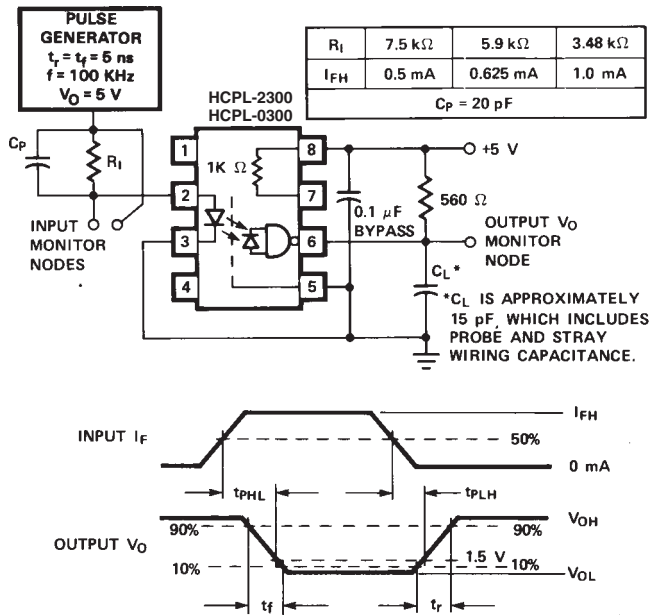

Figure 8. Test Circuit for  $t_{pHL}$ ,  $t_{pLH}$ ,  $t_r$ , and  $t_f$ .
8.  $C_{\text{P}}$  is the peaking capacitance. Refer to test circuit in Figure 8.